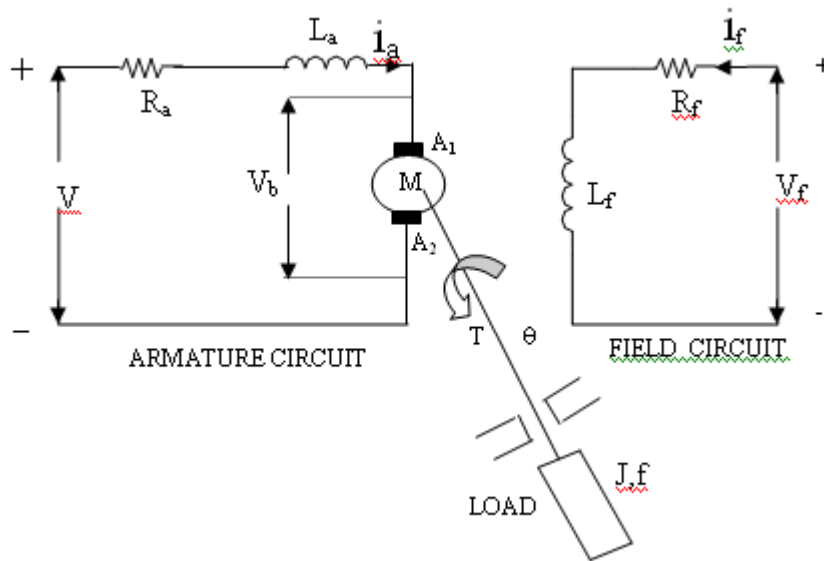

Figure 1
Most of the DC motor used in control systems can be modeled as shown in Figure 1. There are two circuits called the field circuit and armature circuit. Let i_f and i_a be the field and armature current respectively. The torque T generated by the motor is given by
Consider the dc motor shown in Figure 1. If the field current i_f is kept constant and the input voltage is applied to the armature circuit then the motor is an armature controlled dc motor. If i_f is constant equation (1) can be written as,
Thus the armature circuit in the Figure 1 is described by substitution of equation (3) in (2) and the application of laplace transform to(2) and (6) give, assuming zero initial conditions,